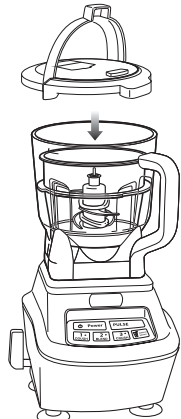

Fig. 4
- 6 Holding the lid by the handle in the upright position, place it on top of the 64 oz. bowl aligning the arrow (▼) located on the lid with the arrow (▲) located on the bowl's handle. (Fig. 4) Press the handle down until you hear a click.